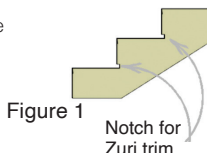

Figure 1
- NOTE: Notch the stringer to accommodate the trims (fig. 1)